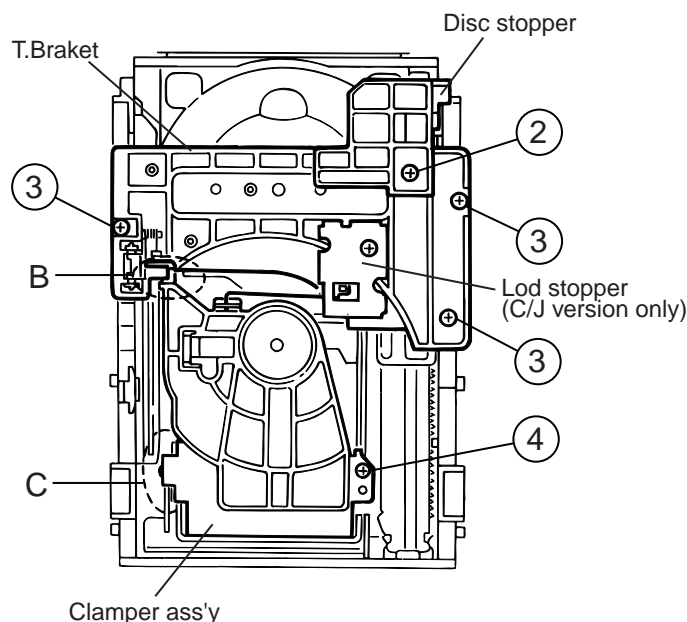

Fig.3
5. Remove the screw 2 retaining the Disc stopper (See Fig.3).
6. Remove the three screws 3 retaining the T.bracket (See Fig.3).
7. Remove the screws 4 retaining the clamber assembly (See Fig.3).